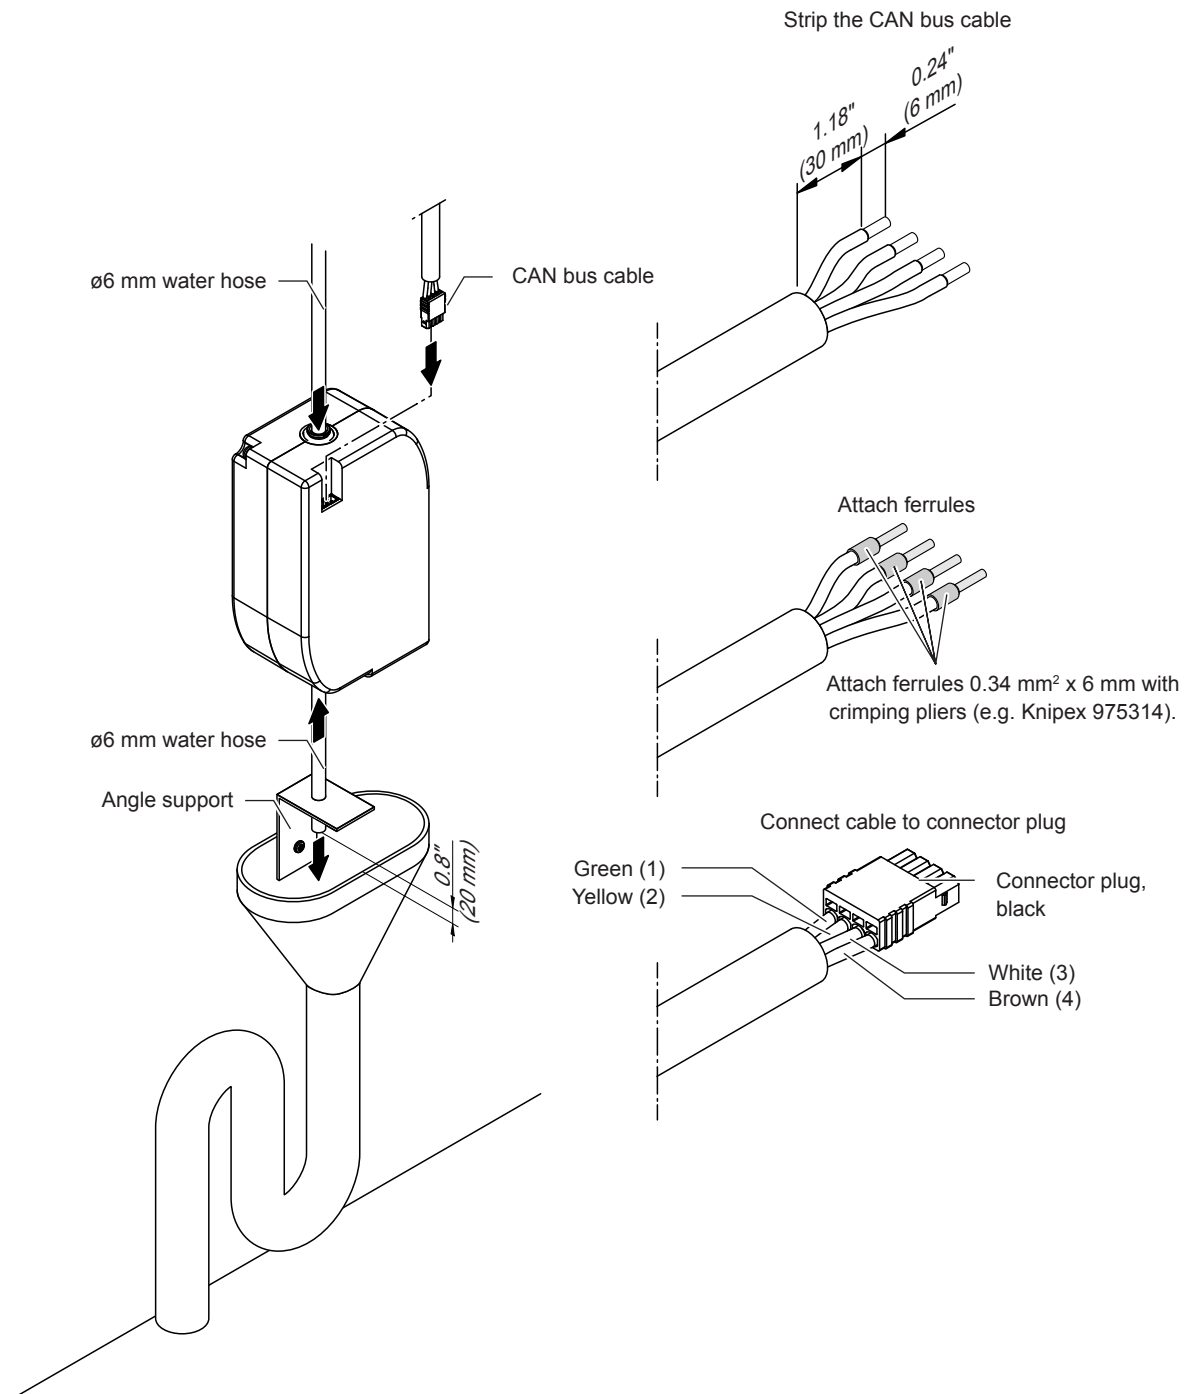

Fig. 12: Connect peripheral drain module
1. Connect hoses according to Fig. 12 appropriately.
2. Prepare the CAN bus cable, attach the plug to the CAN bus cable (see Fig. 12) and connect the CAN bus cable to the drain module.